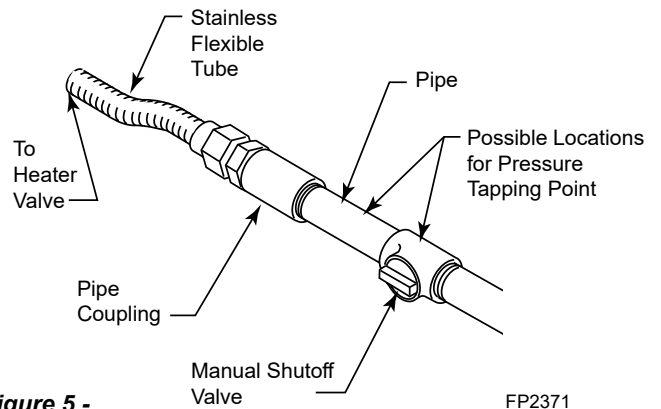

**Figure 4 - Securing Heater to Floor of Fireplace/Firebox**
2. Refer to *Figure 4* for hole locations. After centering the grate correctly, mark the hole positions on the fireplace/firebox floor. Drill two (2) 5/32" diameter holes approximately 1½" deep.
3. Anchor the grate to the fireplace/firebox floor using the screws provided. *Figure 4*